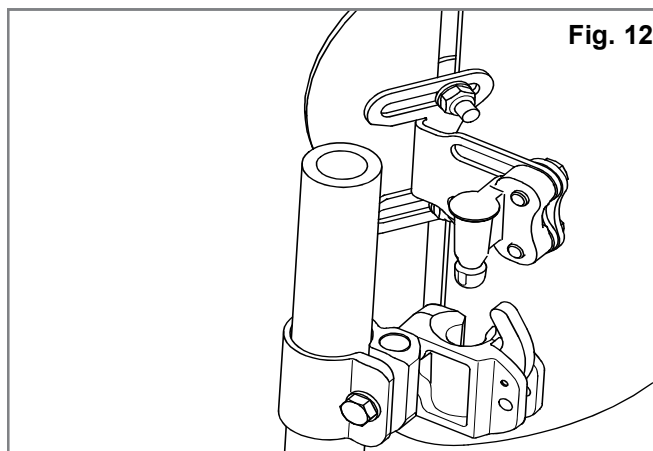

Fig. 12
- Using the 10mm wrench, loosen but do not remove the Mounting Pin Screws (B) and Bracket Nuts (C).
- Attach the J3 Carbon Back to the Mounting hardware by inserting the Receiver Pins into the Receivers, (Fig.12).